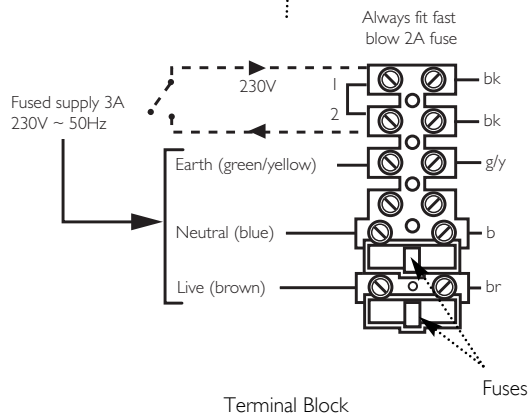

Fig. 57
6. Remove the link between terminals 1 & 2. The switched output from the external control must be connected to terminal 1 (Fig. 57).